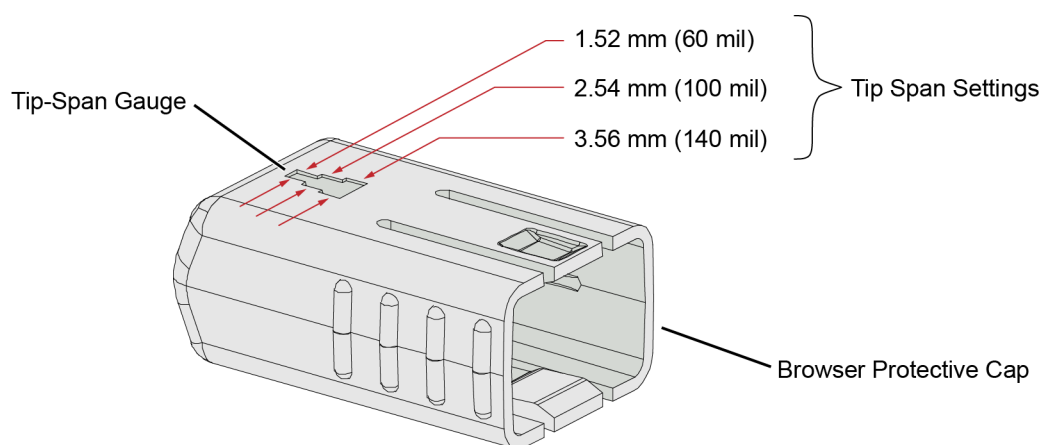

Figure 36 Tip Span Gauge on Browser Protective Cap
- 2 Locate the tip-span gauge on the browser's protective cap as shown in **Figure 36**.